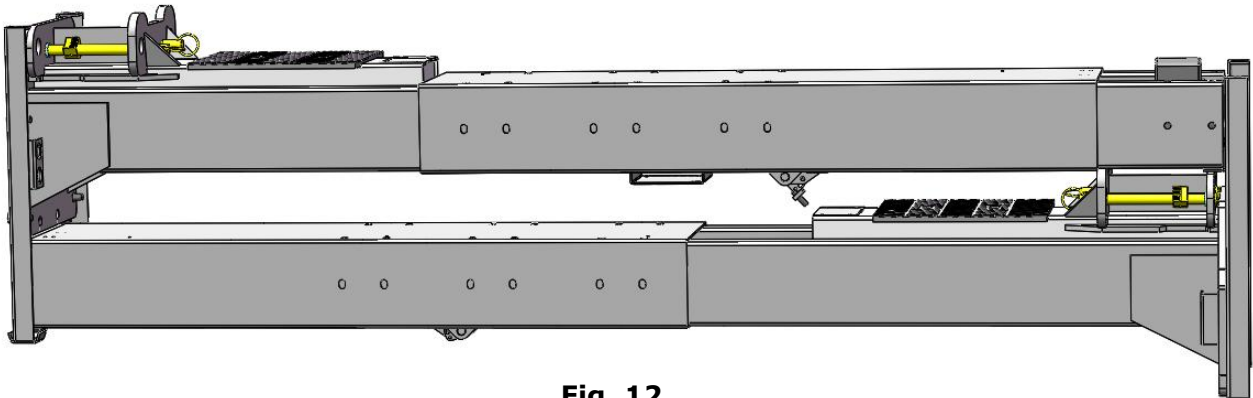

Fig. 12
3. Take out top beam, then move them aside to the installation position. (See Fig. 12).